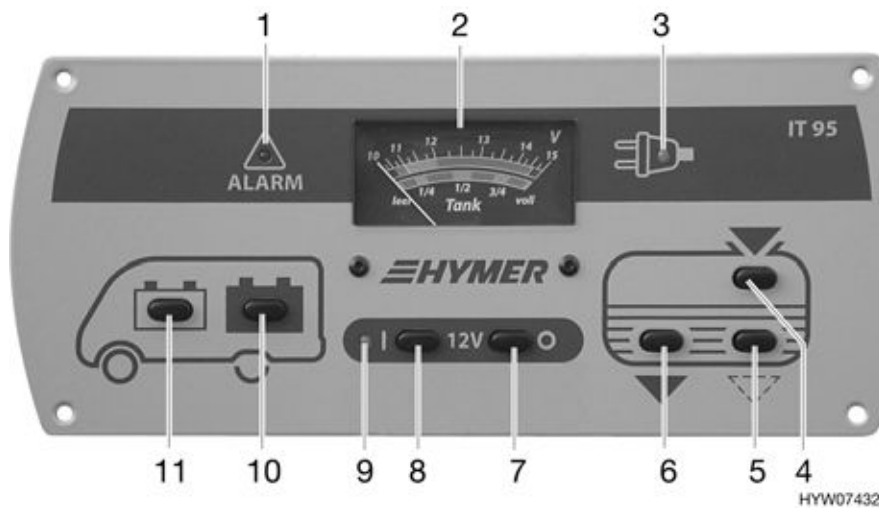

Fig. 110 Panel (variant 1)
The transformer/rectifier only works in conjunction with the panel (Fig. 110, Fig. 111, Fig. 117 or Fig. 122).
If necessary, use the 12 V main switch (Fig. 110,8, Fig. 111,8, Fig. 117,4 or Fig. 122,8) to switch the 12 V supply back on for brief operation. This is only possible, however, when the battery voltage is above 11 V. If the voltage is below this level, the 12 V supply cannot be switched on again until the living area battery has been recharged.
With the V/tank gauge (Fig. 110,2), note the top scale. The gauge automatically lights up as soon as a switch is pressed.
- Press switch (Fig. 110,11) : the battery voltage of the starter battery is displayed.
- Press switch (Fig. 110,10) : the battery voltage of the living area battery is displayed.
The red ALARM warning light (Fig. 110,1) flashes as soon as the voltage of the living area battery falls below 11 V (measured under operation) and there is a risk of a total discharge.
With the V/tank gauge (Fig. 110,2), note the bottom scale. The gauge automatically lights up as soon as a switch is pressed.
- Press switch (Fig. 110,4) : the volume of water is displayed.
- Press switch (Fig. 110,6) : the volume of waste water is displayed.
The 12 V main switch (Fig. 110,7 and 8) switches the 12 V supply to the living area on and off. Exception: entrance step, lighting in the entrance area, heater and spare 4 remain ready for operation.
- Press switch (Fig. 110,8) "I": the 12 V living area power supply is switched on. The green indicator lamp (Fig. 110,9) illuminates.
- Press switch (Fig. 110,7) "O": the 12 V living area power supply is switched off. The indicator lamp (Fig. 110,9) goes out.
The 12 V indicator lamp (Fig. 110,9) illuminates whenever the 12 V main switch (Fig. 110,8) is switched on.
The yellow 240 V indicator lamp (Fig. 110,3) illuminates whenever line voltage is available at the transformer/rectifier input.